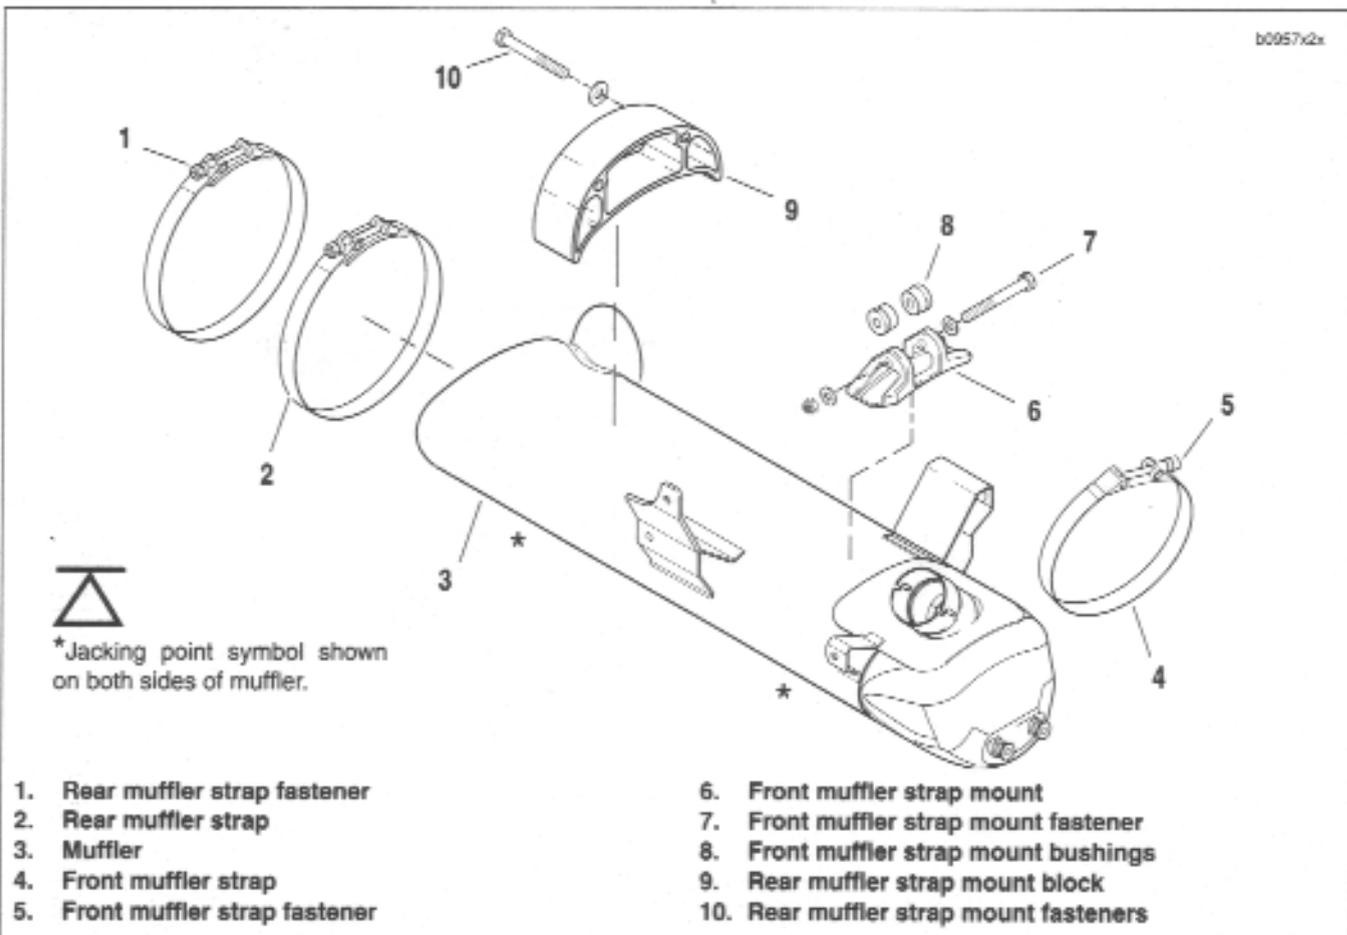

Figure 2-98. Muffler Assembly
4. See Figure 2-98. Loosen front muffler strap mount fastener (7) but do not remove.
2. See Figure 2-98. Remove front muffler mounting block fastener (7).
3. Remove strap (4) from front muffler mounting block (6).
4. Remove front mounting block bushings (8) by punching out with suitable tool.
4. See Figure 2-98. Remove rear muffler mounting block fasteners (10).
5. Slide oil lines from rear muffler block, and remove rear muffler strap mount block (9).
1. See Figure 2-98. Slide rear muffler mounting block (9) over oil lines.
2. Install rear muffler mounting block fasteners (10) and tighten to 32-36 ft-lbs (43-49 Nm).
1. See Figure 2-98. Install front mounting block bushings (8).
2. Install strap on front muffler mounting block (4).
3. Install front muffler mounting block fastener (7) loosely. **Do not tighten.**
2. See Figure 2-98. Loosely install front and rear muffler straps (2, 4).
4. See Figure 2-98. Tighten front muffler mounting block fastener (7) to 22-25 ft-lbs (30-34 Nm).